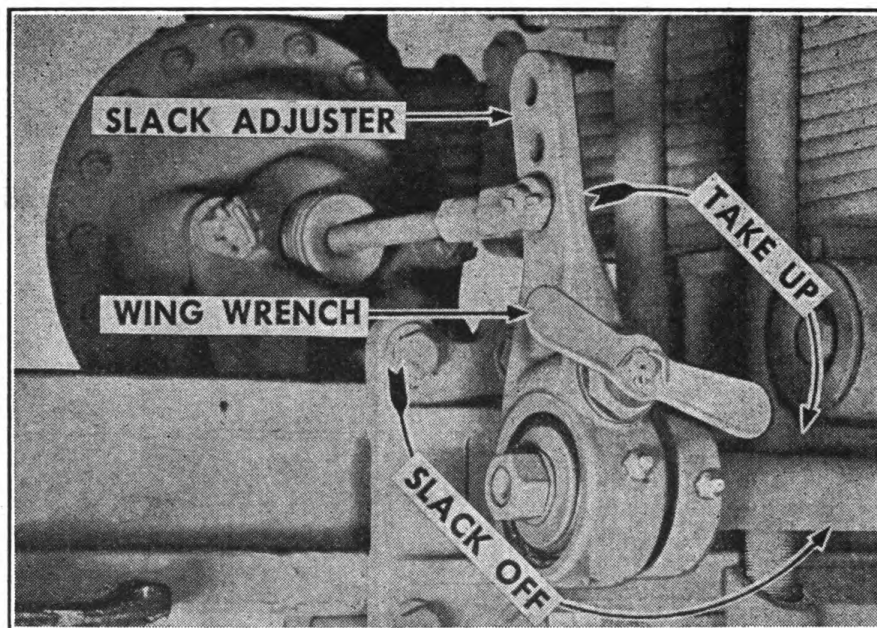

FIGURE 21. MINOR BRAKE ADJUSTMENT.
2. MINOR BRAKE ADJUSTMENT (Fig. 21).—*a.* Jack up wheel until it clears the ground.